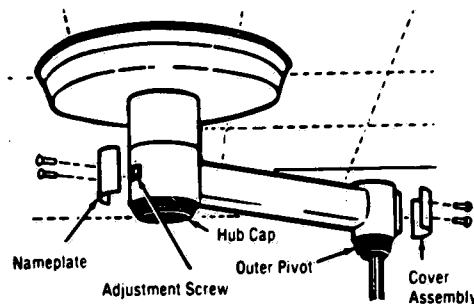

Figure 4-22. INSPECT BRUSHES.
2. Remove cover assembly from each support arm pivot you are servicing. (See Figure 4-22)